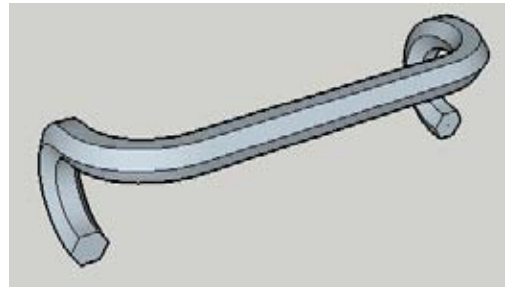

Figure 2-91
11. Select the entire path, activate Follow Me, and click the face. The result is the handlebar shown in Figure 2-91.